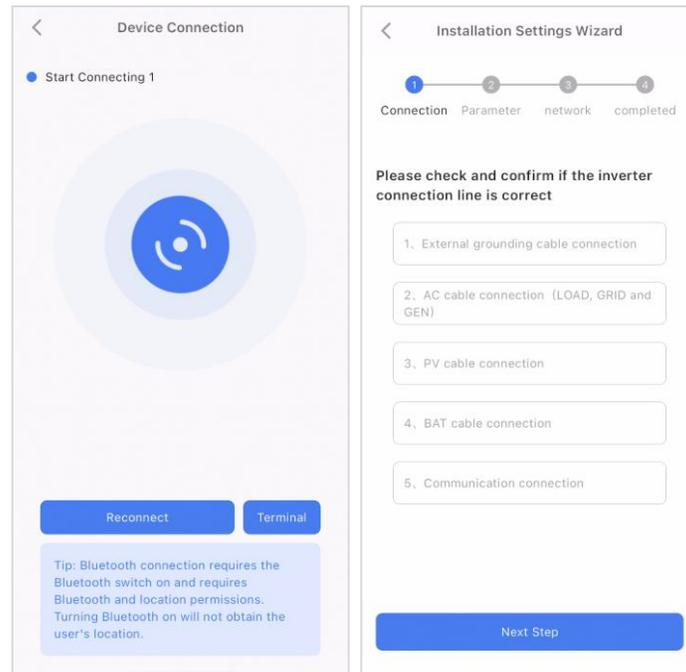

Figure 6-4 Connection Check
- When the app is successfully connected to the inverter, the **Installation Settings Wizard** page will appear (Figure 6-4). Check if the cables are connected correctly; if yes, tap **Next Step**.